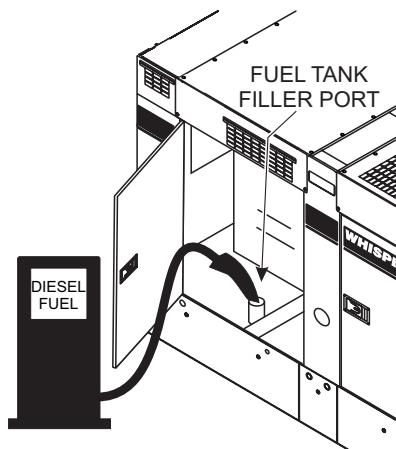

Figure 38. Fueling the Generator
2. Open the enclosure door and remove fuel cap and fill tank as shown in Figure 38.